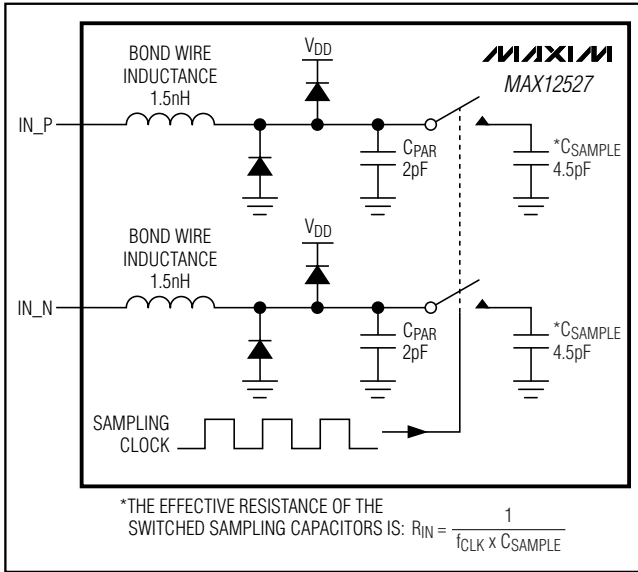
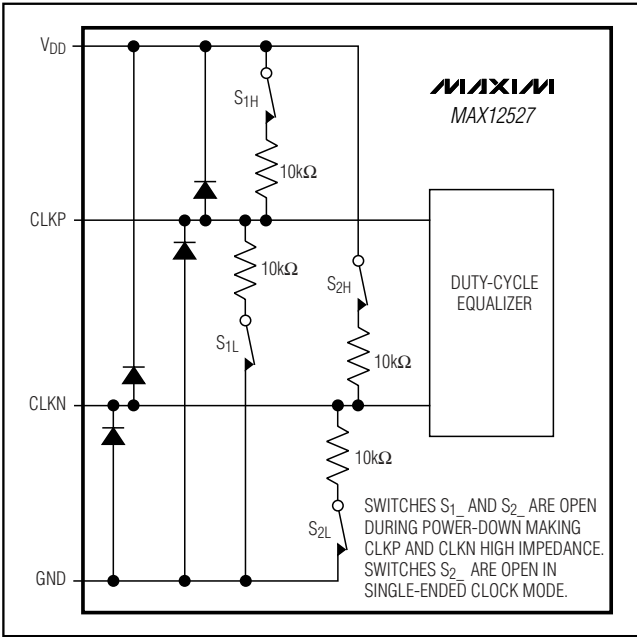

Figure 3. Internal T/H Circuit
Figure 4. Simplified Clock Input Circuit
Figure 3 displays a simplified functional diagram of the input T/H circuit. This input T/H circuit allows for high analog input frequencies of 175MHz and beyond and supports a $V_{DD} / 2$ common-mode input voltage.
The MAX12527 sampling clock controls the switched-capacitor input T/H architecture (Figure 3) allowing the analog input signals to be stored as charge on the sampling capacitors. These switches are closed (track mode) when the sampling clock is high and open (hold mode) when the sampling clock is low (Figure 4). The analog input signal source must be able to provide the dynamic currents necessary to charge and discharge the sampling capacitors. To avoid signal degradation, these capacitors must be charged to one-half LSB accuracy within one-half of a clock cycle. The analog input of the MAX12527 supports differential or single-ended input drive. For optimum performance with differential inputs, balance the input impedance of IN_P and IN_N and set the common-mode voltage to mid-supply ($V_{DD} / 2$). The MAX12527 provides the optimum common-mode voltage of $V_{DD} / 2$ through the COM output when operating in internal reference mode and buffered external reference mode. This COM output voltage can be used to bias the input network as shown in Figures 9, 10, and 11.
The MAX12527 accepts both differential and single-ended clock inputs with a wide 25% to 75% input clock duty cycle. For single-ended clock input operation, connect DIFFCLK/SECLK and CLKN to GND. Apply an external single-ended clock signal to CLKP. To reduce clock jitter, the external single-ended clock must have sharp falling edges. For differential clock input operation, connect DIFFCLK/SECLK to OVDD. Apply an external differential clock signal to CLKP and CLKN. Consider the clock input as an analog input and route it away from any other analog inputs and digital signal lines. CLKP and CLKN enter high impedance when the MAX12527 is powered down (Figure 4).
- 1) INAP/B, INAN/B analog inputs are disconnected from the internal input amplifier (Figure 3).
- 6) CLKP, CLKN clock inputs enter a high-impedance state (Figure 4).